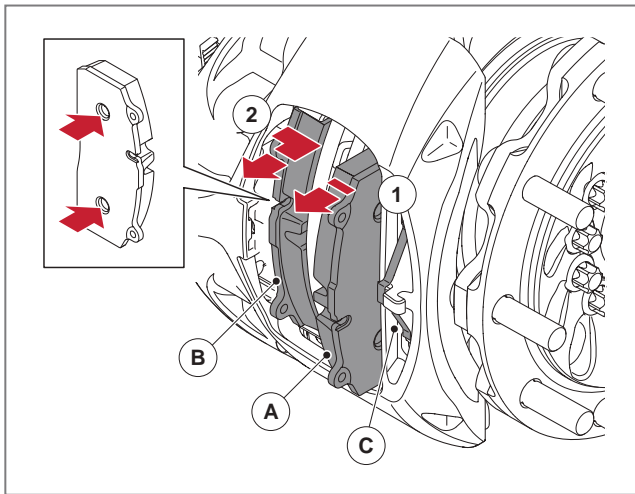

Fig. 39 - Removing the brake pads
- Remove the brake pads. Firstly remove the outer brake pad (A) followed by the inner brake pad (B), see ► Fig. 39. The inner brake pad also locates at two points which mate to the thrust plate. Consequently, you cannot directly pull out the inner brake pad with the outer brake pad still in place. Once the outer brake pad is removed, the brake calliper can be slid across to allow for the inner brake pad to be removed.
- Remove the pad retainer spring bracket (C).